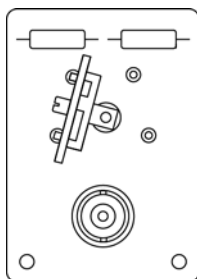

Figure 27 Signal to +Input
- 25** Carefully connect the input of the probe to the test board in the position shown in Figure 27.